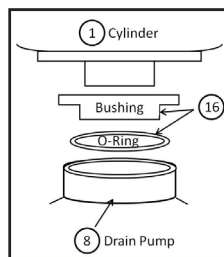

Figure 2b
- b) Connect the power cables to the electrodes on the cylinder (Figure 2b), inserting the snap-on caps as shown on the yellow label attached to the cylinder. Make sure the connector is inserted correctly (you will hear a “click” when in place).